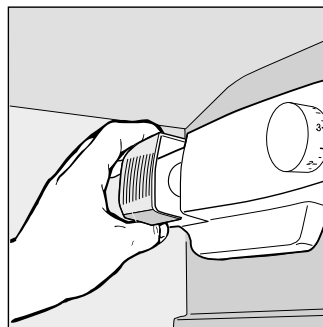

Fig. 4
- *Replacing the light bulb.* The bulb for lighting the interior of the refrigerator is located at the back of the thermostat box. When replacing the lamp, unplug the appliance from the electrical socket, unscrew the burned out lamp and replace it with another with a wattage no higher than 15W (fig. 4).